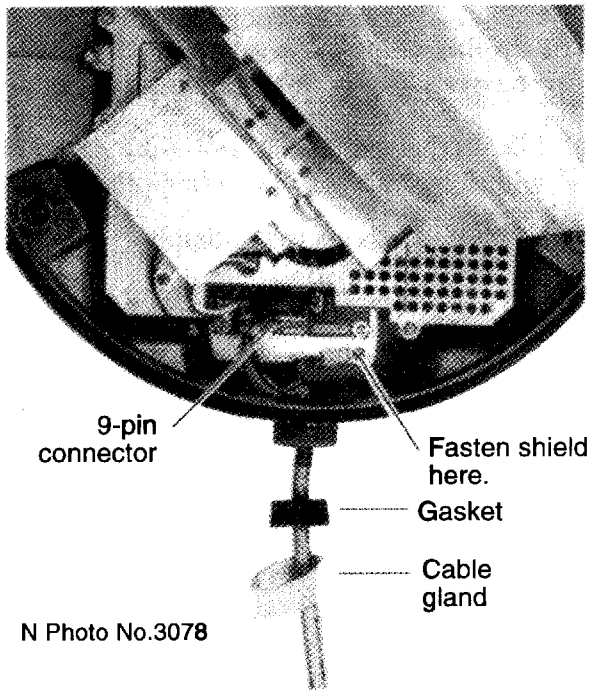

Figure 4-5 How to connect the signal cable to the antenna unit
9. Referring to Figure 4-5, pass the signal cable through the hole at the rear of the antenna unit. Pass the cable through the gasket and cable gland, and then hand tighten the cable gland. Fasten the shield to a screw on the chassis to ground the unit.
10. Referring to Figure 4-5, connect the 9-pin connector.